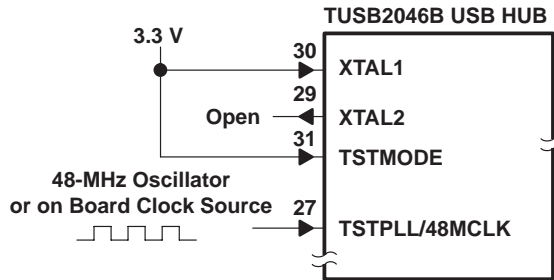

Figure 8. 48-MHz Input Clock Configuration
- A 48-MHz input clock configuration is shown in Figure 8. In this mode, both XTAL1 and XTAL2 terminals must be tied to 3.3-V V_{CC} . The hub accepts the 48-MHz clock input on TSTPLL/48MCLK (terminal 27). XTAL2 must be left floating (open) for this configuration. Only the oscillator or the onboard clock source is accepted for this mode. A crystal can not be used for this mode, since the chip's internal oscillator cell only supports the fundamental frequency.